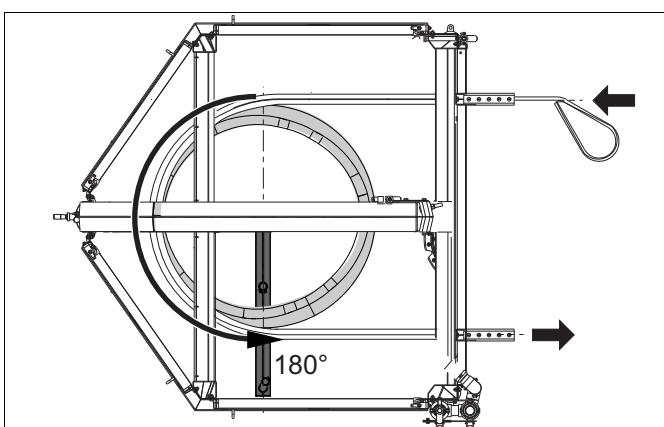

fig. 32 Outside washer, span arch equal to 180°
- Machine with a span arch equivalent to 180°. Adjust the outer washer to 180° by rotating it. See fig. 32.